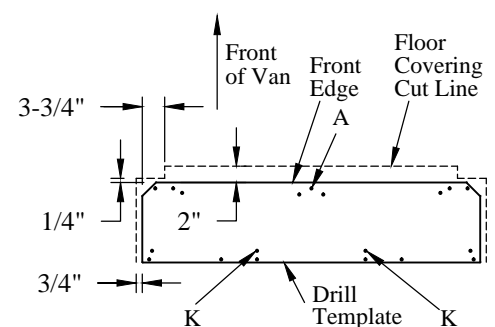

Figure 5: Floor covering cut location (top view).
5. **Mark** the floor covering around the template, leaving clearance as shown (Figure 5).